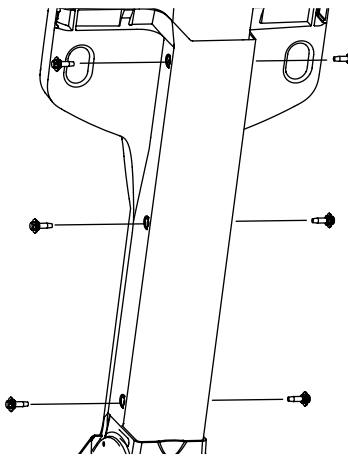

Figure 5
4. Secure the console in place with the six shoulder screws. See Figure 5. Torque the shoulder screws to 60 in/lbs (+/- 20%).